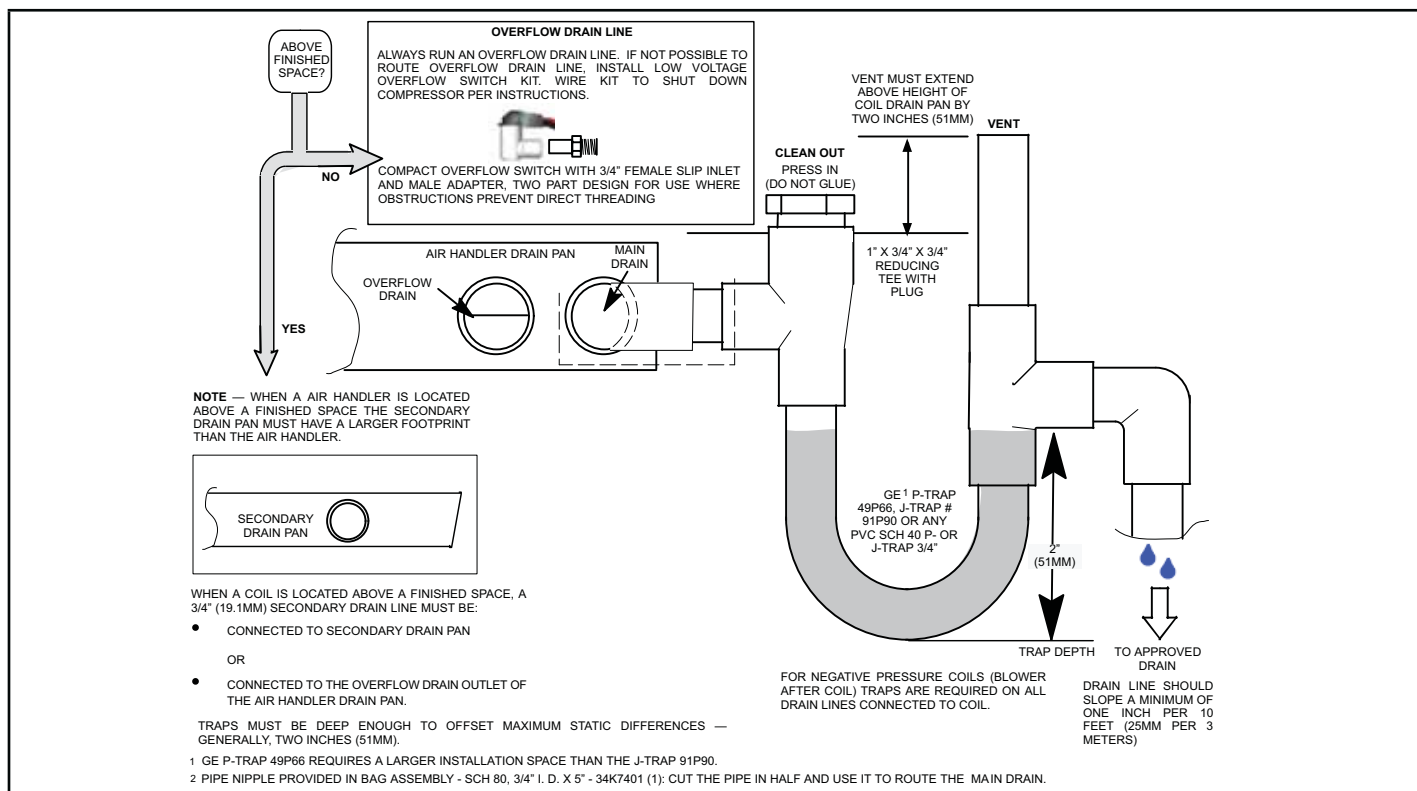

FIGURE 25. Typical Main and Overflow Drain Installations
Connect the main drain and route downward to drain line or sump. Do not connect drain to a closed waste system. See Figure 25 for typical drain trap configuration.
- 6 - Install a 2" trap in the main (primary) drain lines as close to the unit as practical (see figure 25). Make sure the top of the trap is below the connection to the drain pan to allow complete drainage of the pan.
NOTE - Horizontal runs must have an anti-siphon air vent (standpipe) installed ahead of the horizontal run. See figure 25. An extremely long horizontal run may require an oversized drain line to eliminate air traps.